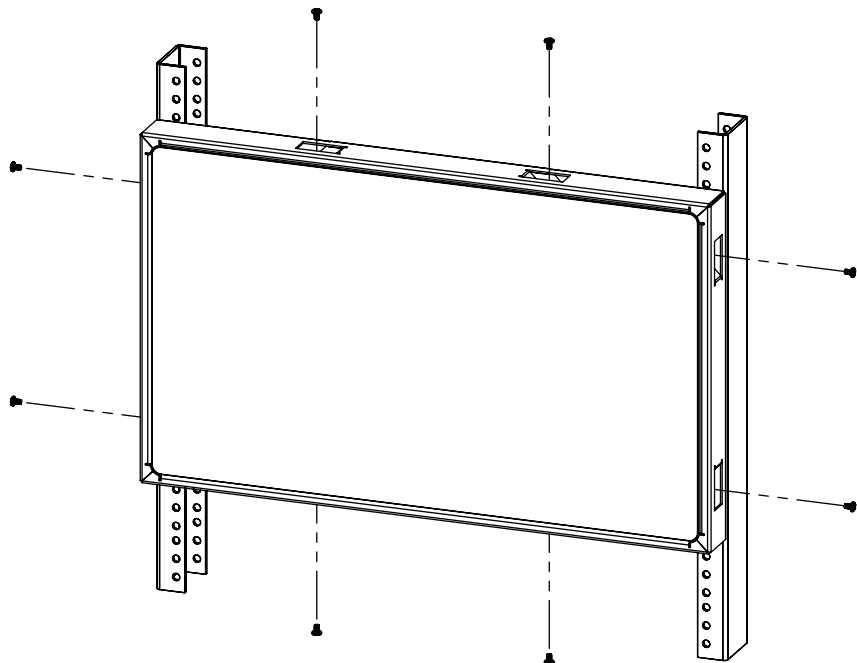

Figure 3 Fasten the Touchscreen Monitor to the Rack-Mount Bezel
- Step 6. Adjust the touchscreen monitor position to align the screw holes on the four sides of the rack-mount bezel with the screw holes in the touchscreen monitor. Use eight of the screws supplied with the touchscreen monitor to fasten it (see *Figure 3*).